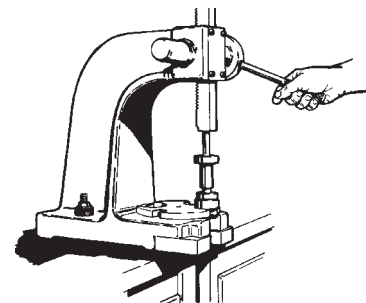

Figure 4-23
1. Using an arbor press, install the bearings on the shaft prior to installing the shaft into the pedestal. A steel "donut" with the proper inside diameter and outside diameter, refer to Chart 1, should be used between the arbor face plate and the lower bearing to insure proper installation and to prevent bearing damage. The bearings must seat against the shoulder for proper alignment. Refer to Figure 4-23. \*Also refer to Alternate bearing installation procedures.